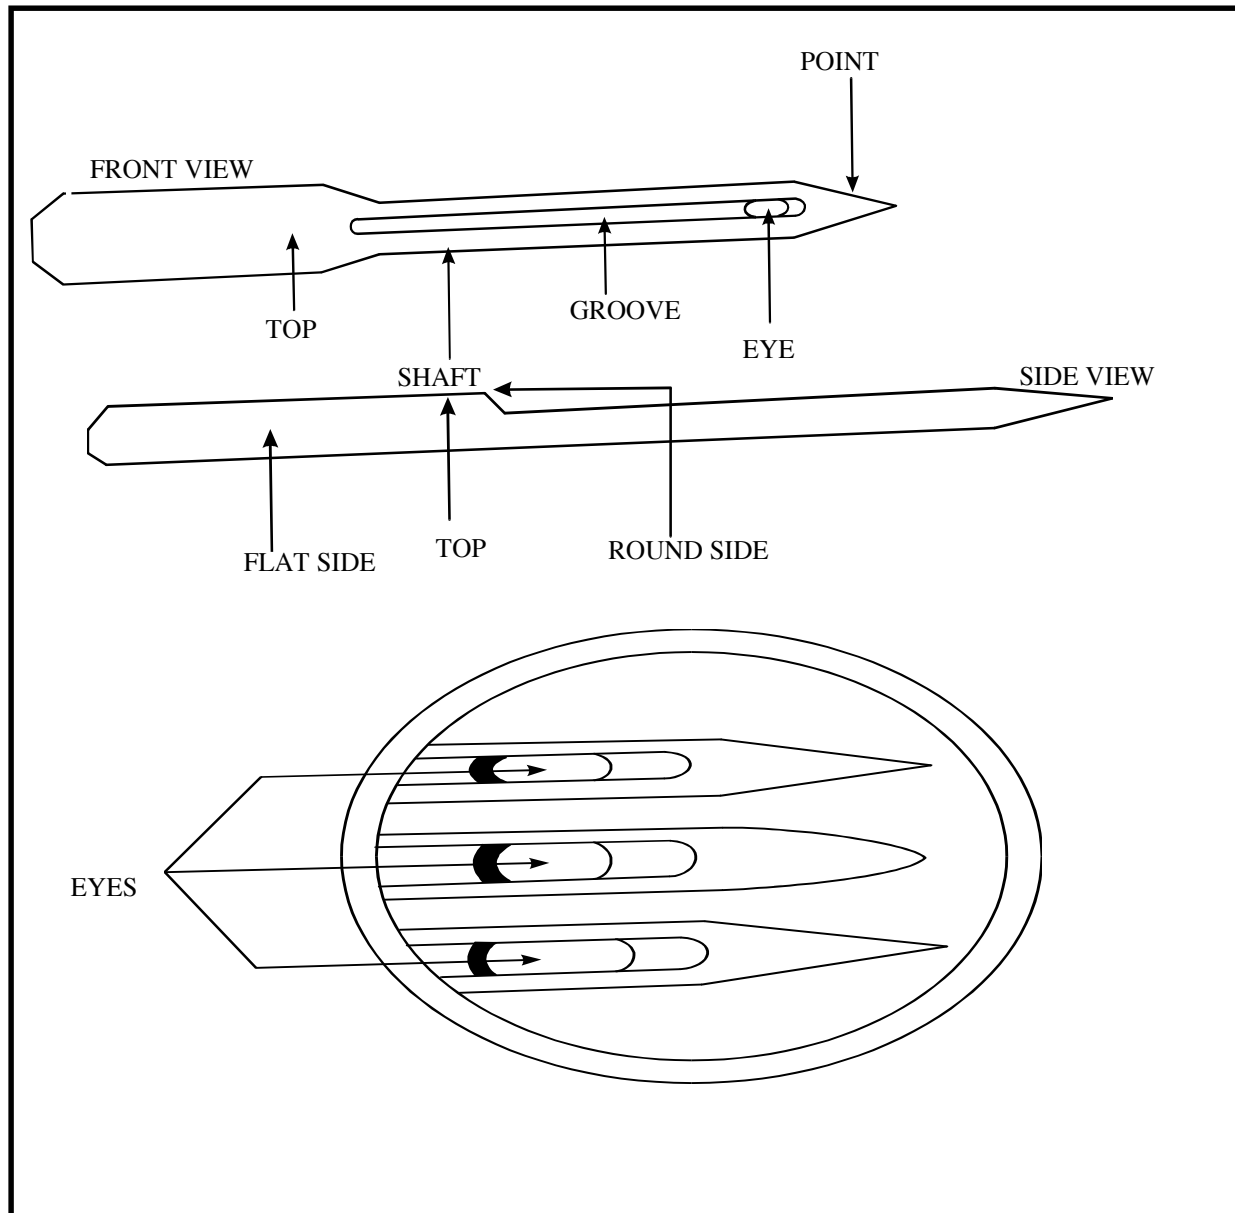

Figure 3-2. Sewing machine needles
a. Needles. Sewing machine needles (Figure 3-2) come in several types and sizes. The needles are classified by the type of shank, the type of point, and the length of the needle. Each type of sewing machine uses a different type of needle. Always use the correct type of needle, and replace bent or dull needles so that the machine operates properly. Needles come in numbered sizes. Needles with high numbers have bigger eyes and thicker shafts than needles with low numbers. The size needle to use is determined by the size thread needed to make the repair. Always match the size of the needle to the size of the thread so that the thread will pass easily through the eye.